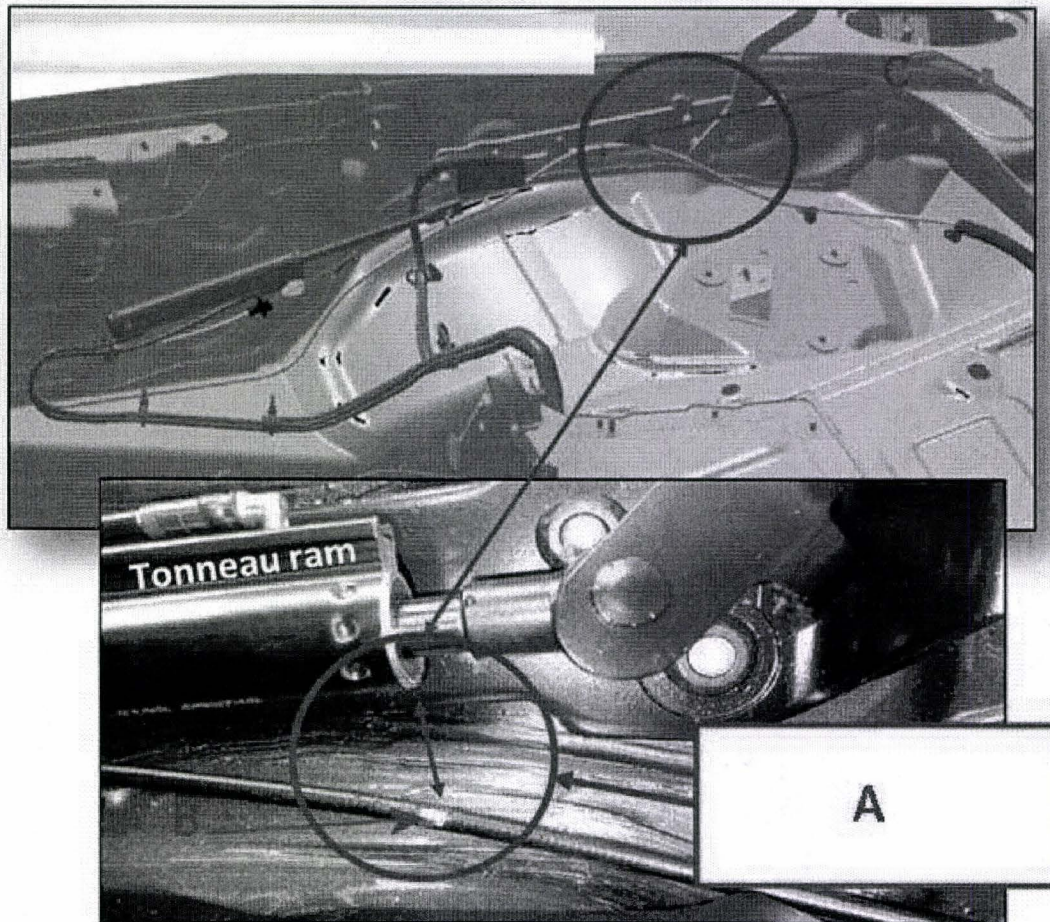

Figure 1
A potential compression point has been identified between the tonneau cover hydraulic ram and the C flap Bowden cable as it routes under the tonneau cover drive system (see Figure 1). A revised clip arrangement has been specified to avoid this compression damage. In severe cases the damage to the Bowden cable is such as to impair correct operation of the C flap, therefore a test of the C flap function is required to ensure the Bowden cables are serviceable before implementing the revised clip arrangement
1. Figure 1 details the original routing and single cable tie (C) securing the Bowden cable (shown in yellow). The detail at point A shows the potential contact point between the tonneau cover hydraulic ram and the Bowden cable. The actual contact takes place when the tonneau is almost closed and therefore the close proximity of the hydraulic ram and the Bowden cable cannot be seen when viewed with the tonneau cover in a transient position. Detail B shows, in this case, a section of the outer sheath of the Bowden cable that has been removed by repeated contact with the ram. Note: as long as the system has passed the C flap function test then the absence of some of the outer sheath is not sufficient grounds to change the cables